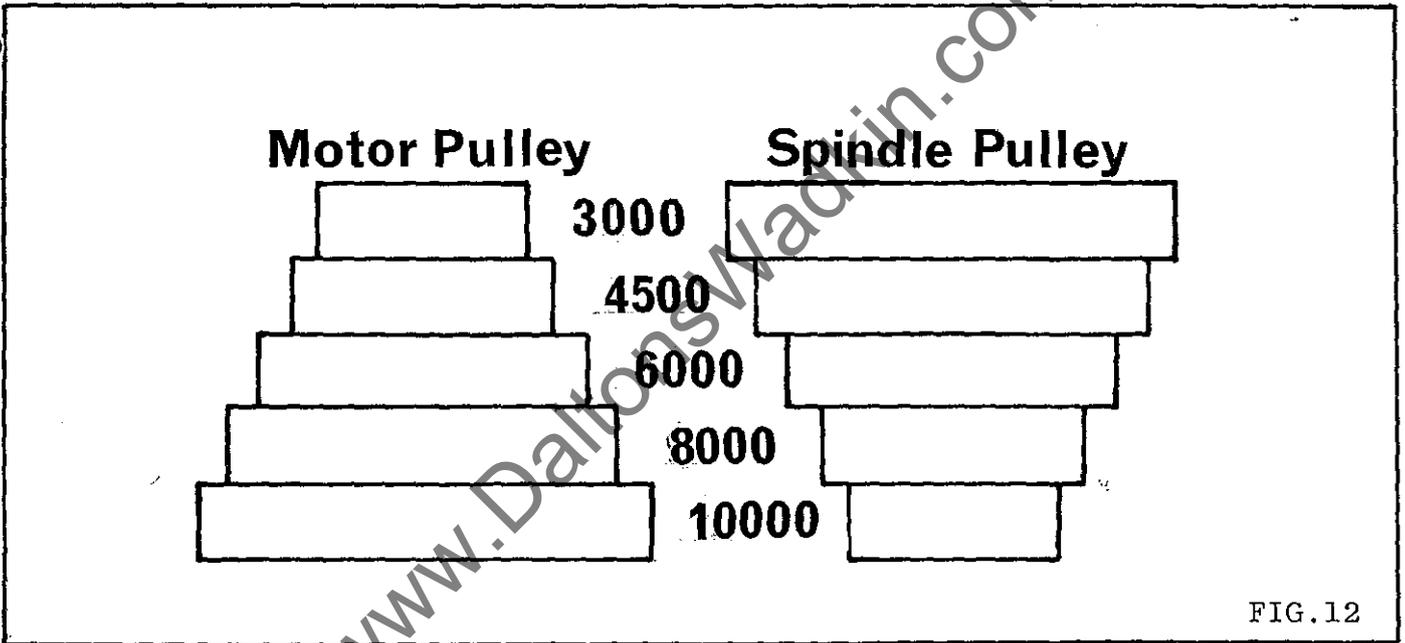

FIG.12
- 5) Position drive belt on pulley for required spindle speed. See FIG.12, for pulley layout and speeds.